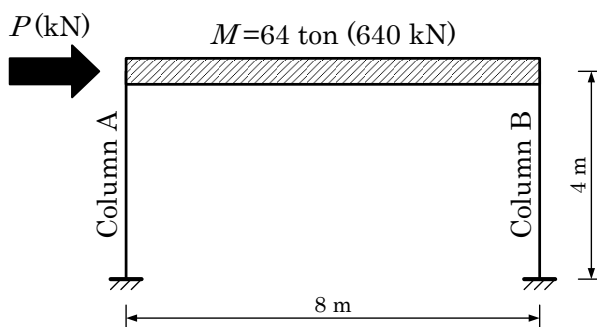
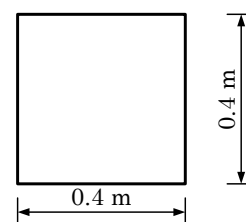

Figure 2
Figure 3
- (2) Here is a one-span one-story plane rigid joint frame, as shown in Figure 2. The beam is stiff and strong enough not to deform nor yield. The mass of the beam is 64 (ton) (weight: 640 (kN)). Column A and Column B are of solid section with the dimension of 400 (mm) by 400 (mm), as shown in Figure 3. Their Young's modulus E is $E = 2 \times 10^3$ (N/mm²). The depth of the beam and the weight of the columns may be ignored. Only the flexural deformation is considered.
The lateral force of P (kN) acts at the center of the beam, as shown in Figure 2.